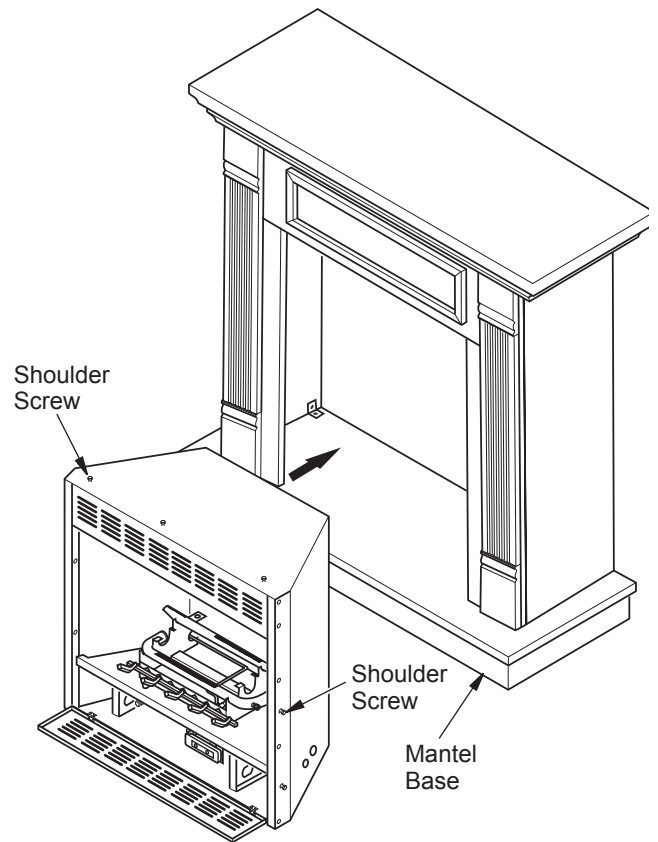

Figure 10 - Installing Fireplace without Flange
3. Position fireplace inside mantel (see Figure 10). Carefully position gas lines. **IMPORTANT:** Use caution when positioning fireplace on base. Base may scratch easily.